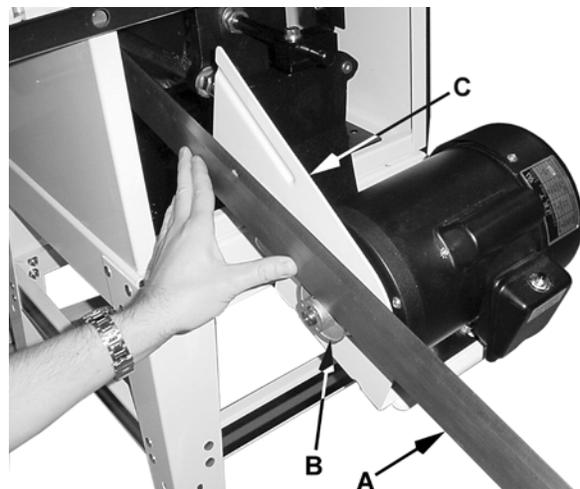

Figure 23
5. Using an accurate straight edge (A, Fig. 23), line up the motor pulley (B, Fig. 23) with the arbor pulley.
6. Position the belt guard (C, Fig. 23) approximately 1/8" from the end of the motor.